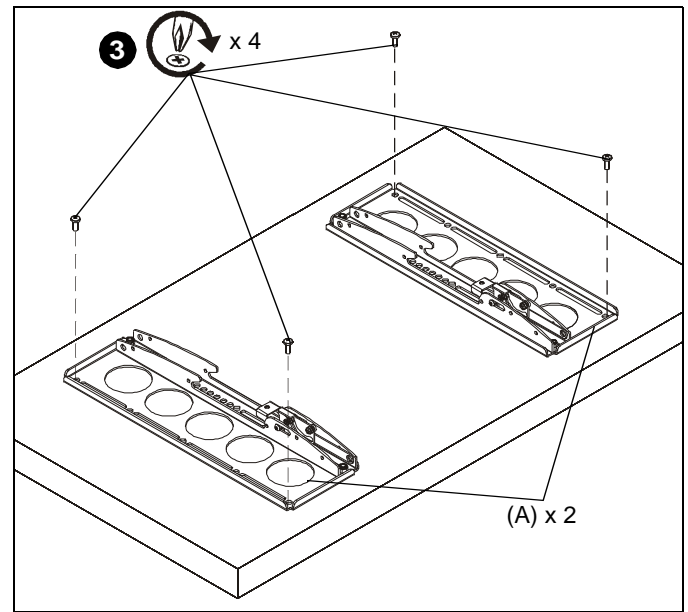

Figure 2
3. Use four M6 x 16mm screws (included with mount) to attach extender brackets (A) to display. (See Figure 2)